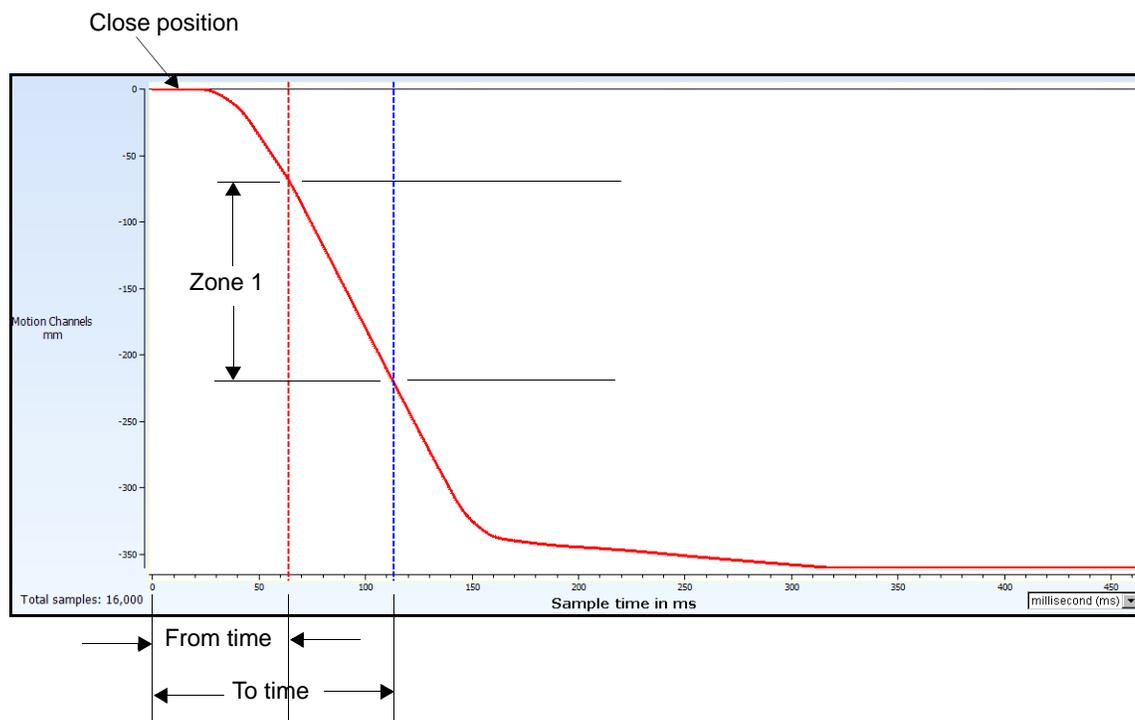

Figure 66 Average Velocity Time to Time
- Time to Time—The circuit breaker average velocity is calculated between the two times specified. In Figure 66, the end time (*TO*) must be greater than the start time (*FROM*).